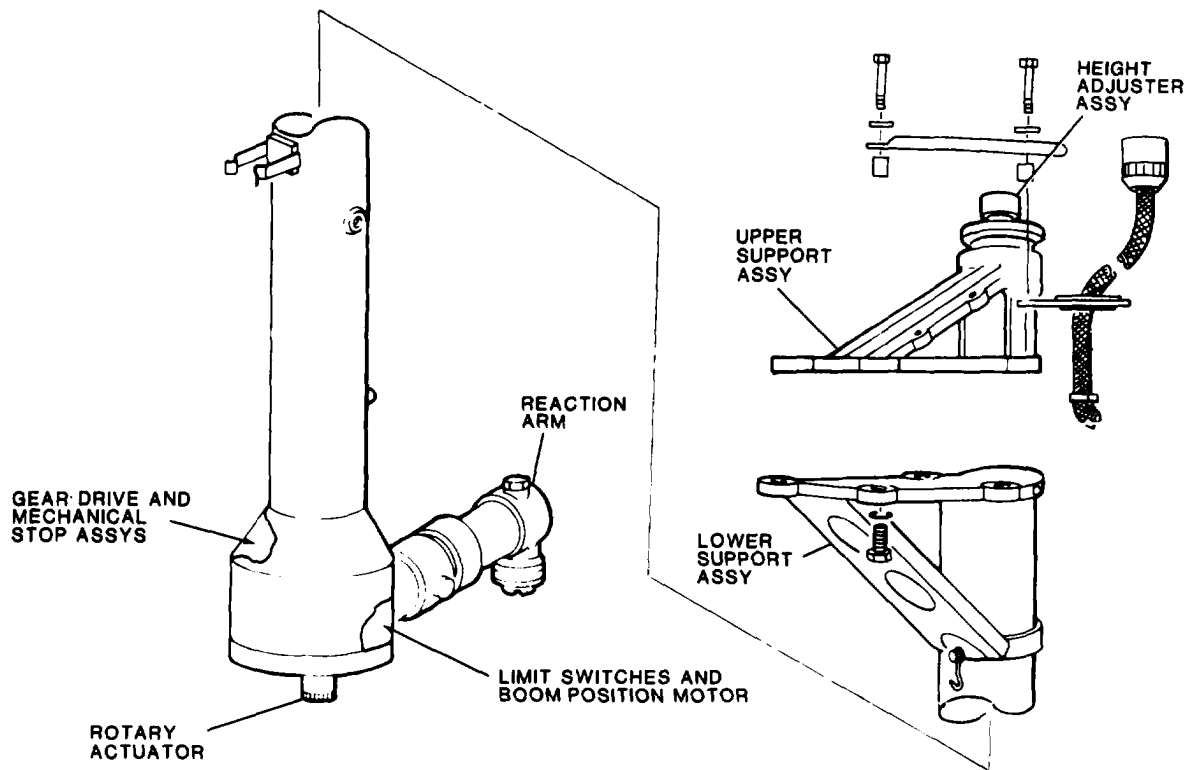

Figure 1-5. Boom Position Support Assembly
a. The boom position support assembly (Figure 1-5) consists of upper and lower support assemblies, a height adjuster assembly, four limit switches, boom position motor, gear drive assembly, a mechanical stop assembly, reaction arm, and the rotary actuator.